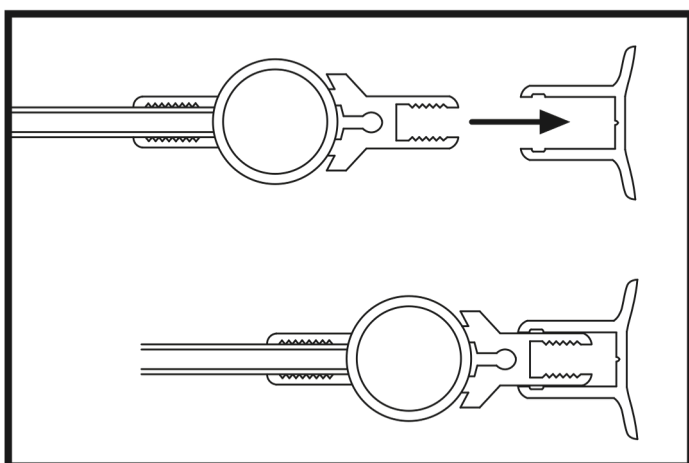

Figure 5
10. Make sure that the glass is fixed in the correct position inside the hinge bar profile and that the edge of the glass is level. (Fig 5)